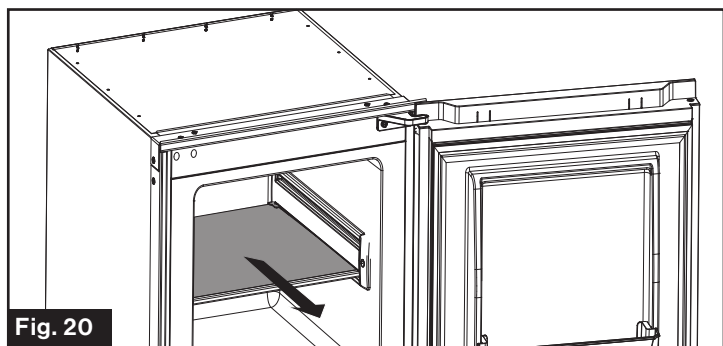

Fig. 20
- Repeat steps 2 and 3 to loosen the shelf fixing screw on the other side. Pull to remove the shelf out from its original position. (Fig. 20)